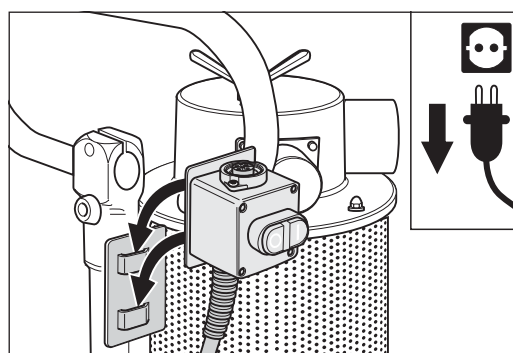

Fig. 56 Hook the switch into holder on the chassis.
- 3 Remove the ON/OFF switch from motor switch box and hook it into holder on the chassis (fig. 56).